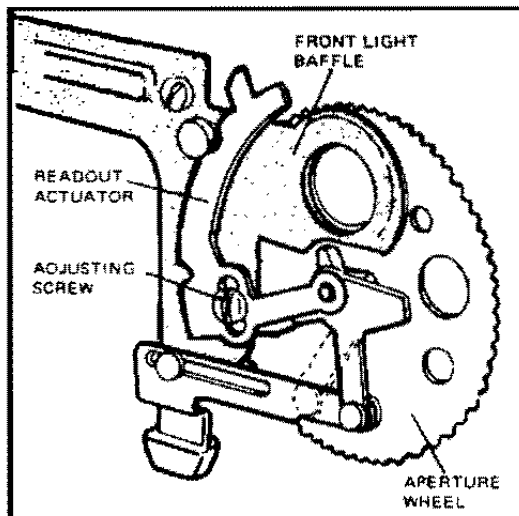

FIG. 3-8 ALIGNING THE APERTURE WHEEL
- c. Check the alignment of the aperture wheel. A large aperture in the wheel must be aligned with the right-hand edge of the aperture in the front light baffle (Figure 3-8). Simply loosen the adjusting screw in the readout actuator and rotate the aperture wheel as necessary. Retighten the adjusting screw. Apply a small amount of glyptol to the screw.